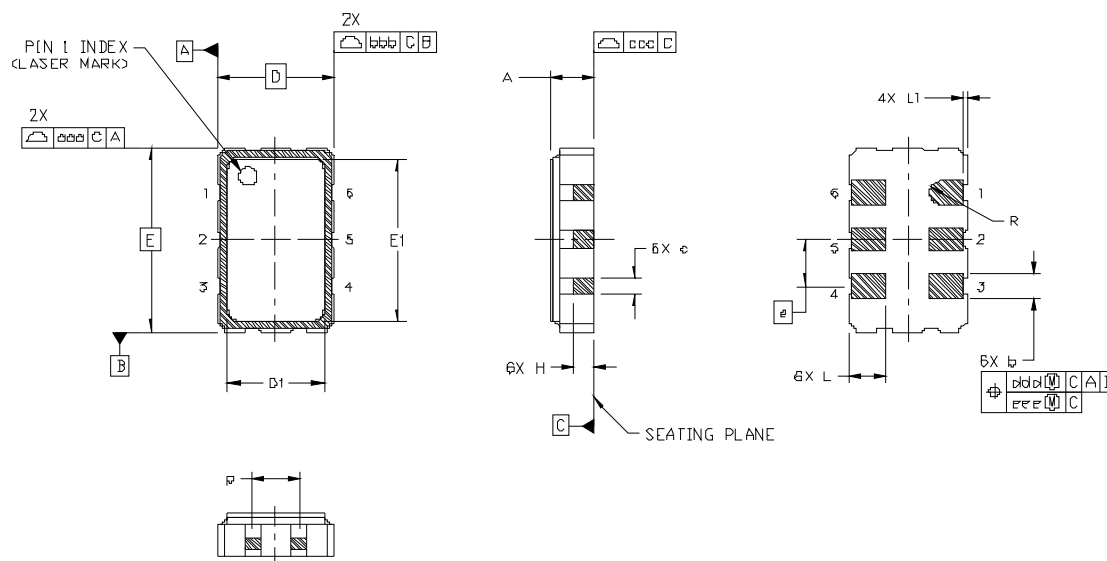

Figure 5. Si510/511 Outline Diagram
Figure 5 illustrates the package details for the 3.2 x 5 mm Si510/511. Table 16 lists the values for the dimensions shown in the illustration.
- Updated Figure 5 outline diagram to correct pinout.